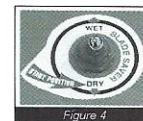

Figure 4
- Blade Saver switch (Figure 4) must be in the DRY position or engine will not start.